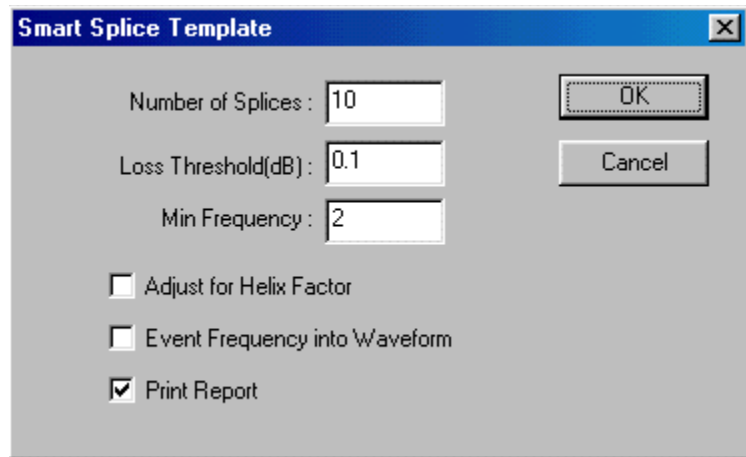

Figure 7-2: Smart Splice Template Dialog Box
6. Select **Trace>Smart Template** to display the Smart Splice Template dialog box shown in Figure 7-2.